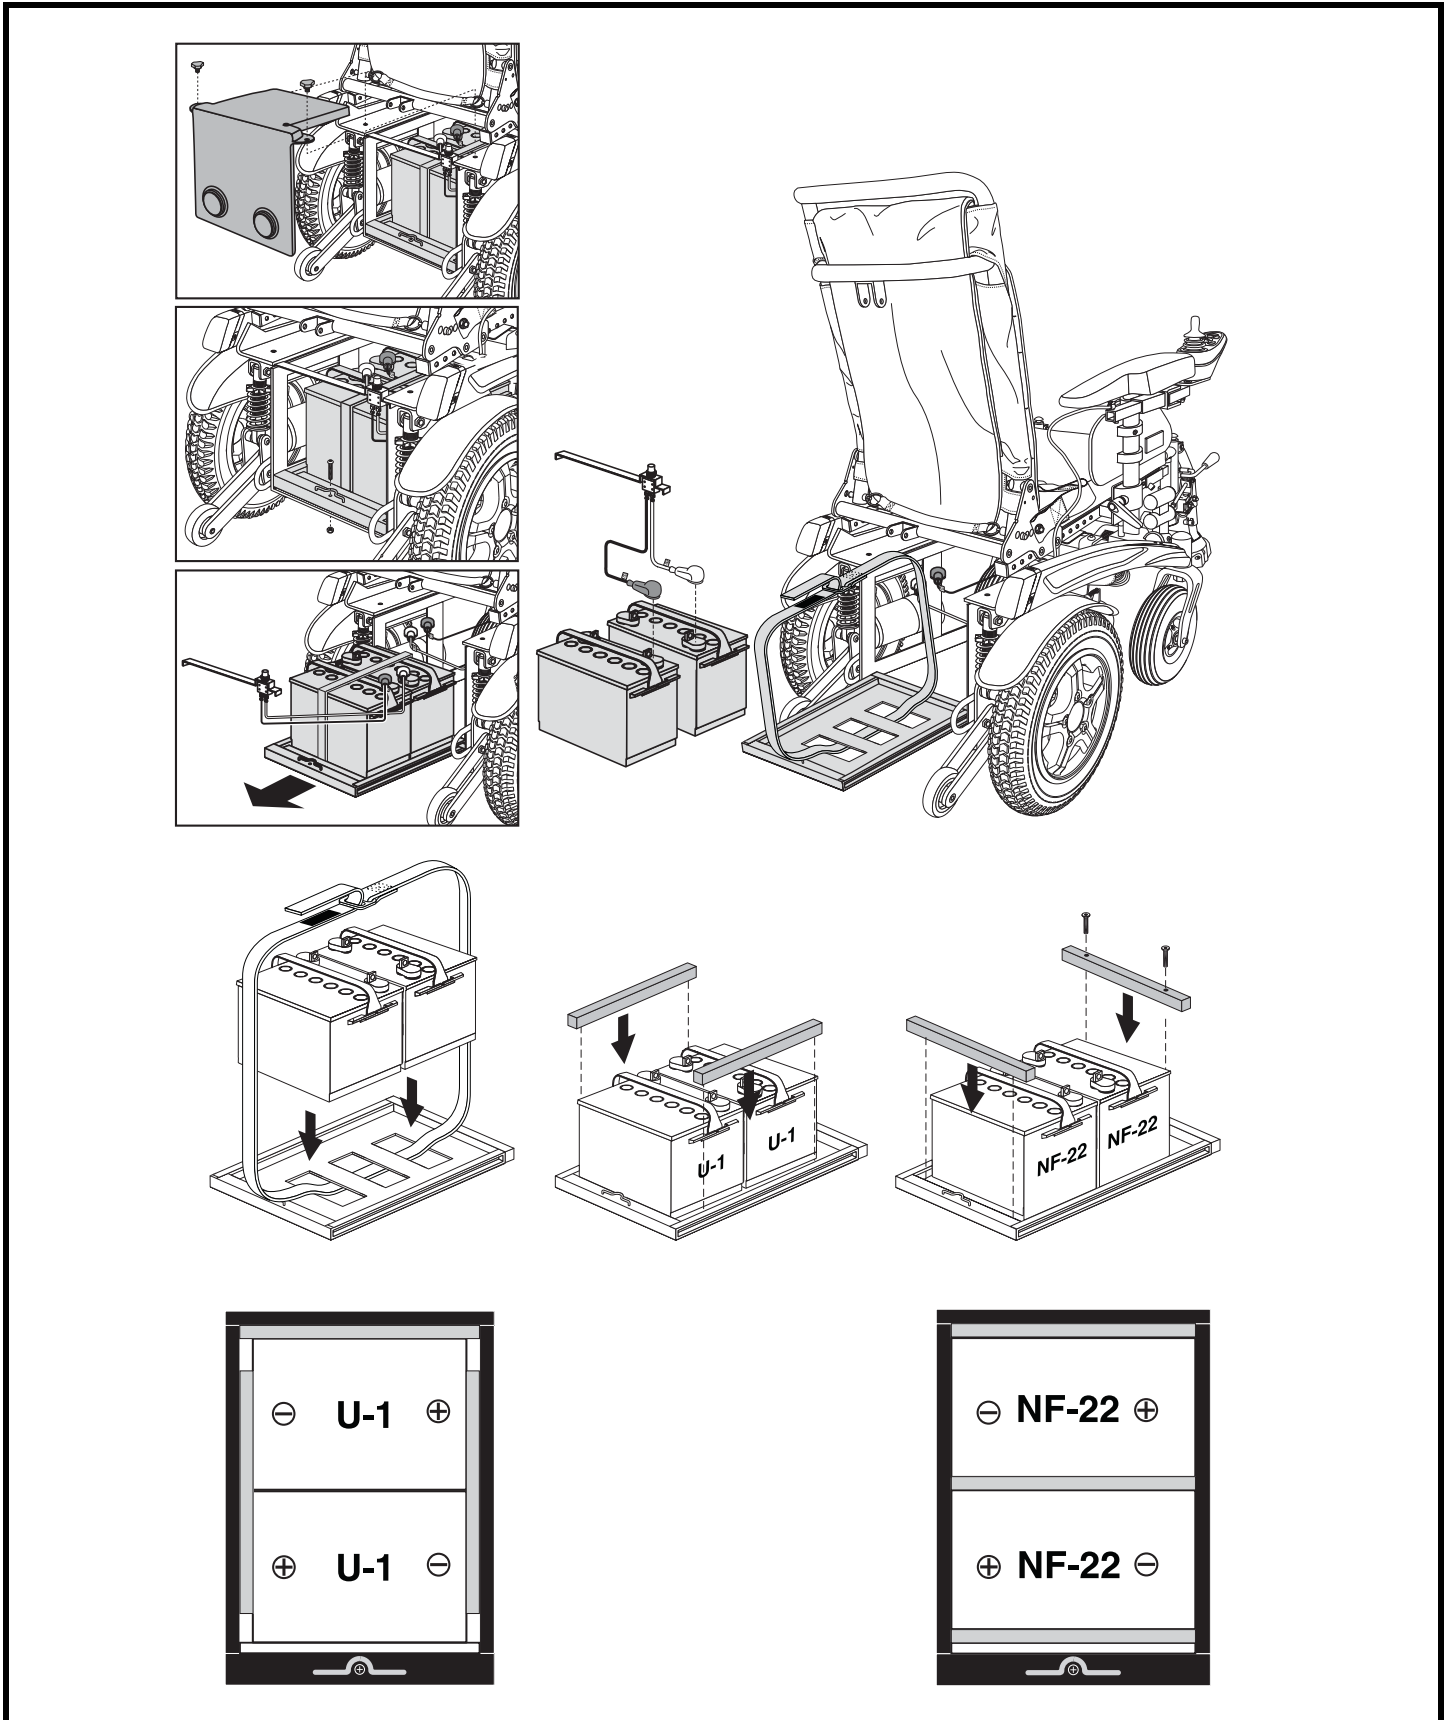

Figure 31. Battery Replacement
3. Remove the two (2) thumbscrews from the top of both sides of the rear cover.
6. Lift the battery tray by the handle and then slide the battery tray back. **See figure 31.**
10. Install the new batteries. **See figure 31.**
12. Connect the front battery cable to the front battery terminals according to the battery wiring diagram. **See figure 31.**